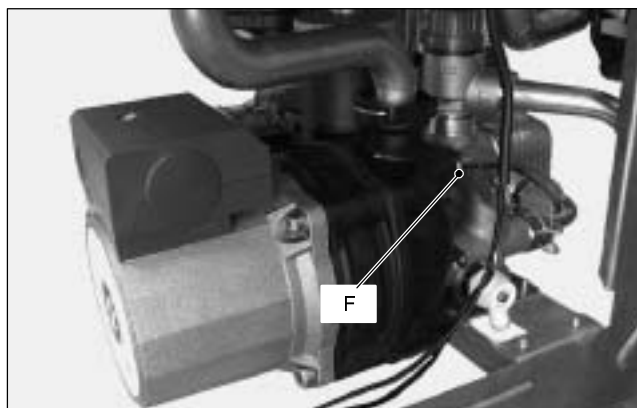

Fig. 20
- 8 Remove the fork F (Fig. 20), the capillary pipe and remove the pump towards the front of the boiler.